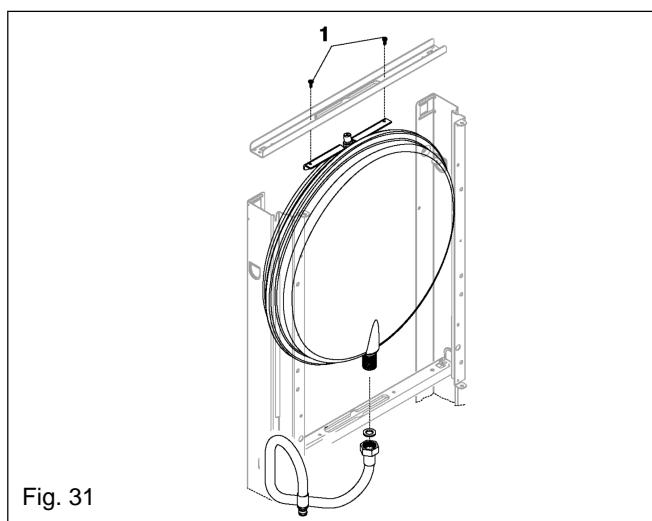

Fig. 31
Carry out component removal procedure as described in 6.4. Disconnect the flue from the appliance. Disconnect the flexible expansion pipe from the vessel (fig. 31). Locate and remove the four screws that secure the vessel top holding plate, remove the plate. The expansion vessel can now be removed. Replace in the reverse order. Ensure all seals are in good condition, taking care to ensure they are replaced correctly.
Locate and remove the 2-screws that secure the lower section of the air chamber. Locate and remove the 2-screws that secure the upper section of the air chamber. The complete air chamber assembly can now be lifted clear from the appliance. Disconnect the flexible expansion pipe from the vessel (fig. 31). Locate and remove the 2-screws that secure the vessel (1). The expansion vessel can now be removed. Replace in the reverse order. Take extreme care when refitting the wiring to the air chamber. Ensure all seals are in good condition, taking care to ensure they are replaced correctly.